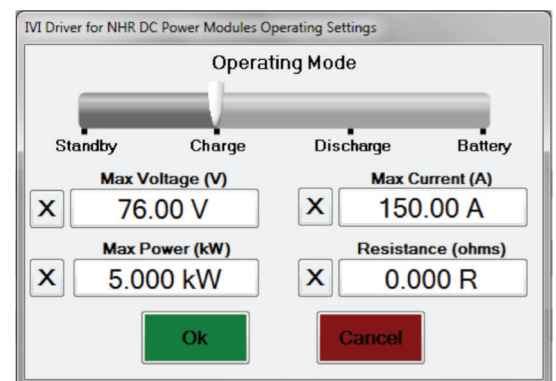

Figure 5 - Power Supply, Electronic Load, & Programmable Battery Modes
Each test channel is an 8kW source, a 12kW sink and operates as a fully programmable power supply, load, or battery. All of these operating modes support constant-voltage (CV), constant-current (CC), and constant-power (CP) regulation (Fig. 5). More than one regulation mode may be enabled at the same time, creating standard charge profiles like CCCV and CPCV.